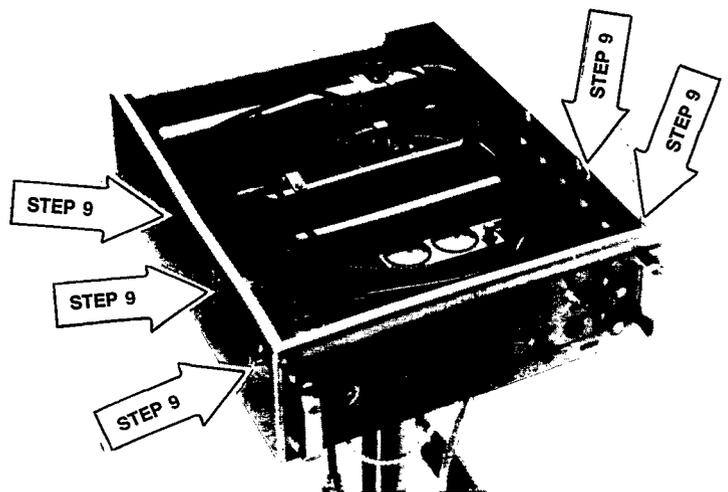

FIGURE 11
9. Lift off the top of the Porta-Cart. Loosen the thumb-screws that secure the instrument hanger bar assemblies upside down in the unit (Figure 11).